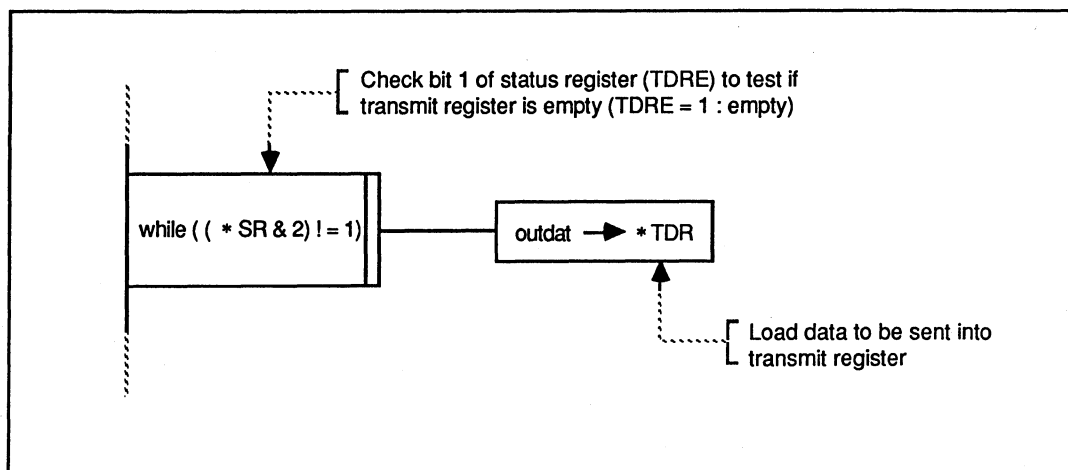

figure 4-17. ACIA Control (Sending Serial Data)
1. Figure 4-17 shows how to control ACIA to send data.